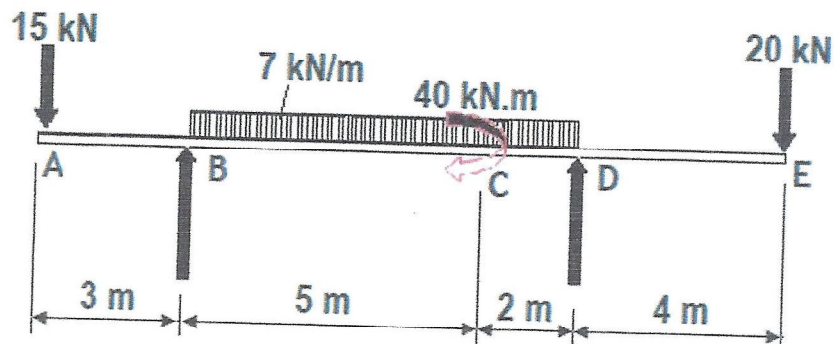

Figure Q4
- (b) Using Singularity Functions, express the shear forces and bending moment in the beam **ABCDE** shown in **Figure Q4**, and draw the shear force and bending moment diagrams for the beam and indicate principal values. Loads and dimensions are indicated in the diagram. (16 Marks)